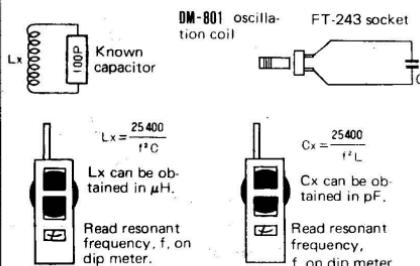

Figure 10 – Inductance and Capacitance Measurements.
The value of unknown inductor can be obtained in combination with known capacitor by their resonant frequency, as illustrated in Figure 10. Likewise the value of an unknown capacitor can be calculated. The inductance (L), capacitance (C), and resonant frequency (f) are related as: